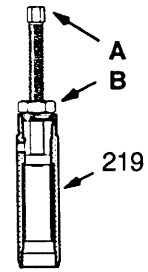

Fig 17
7. Screw the large nut (B) of the tool into the top of the cylinder (219). Screw down the rod (A) to push the sleeve out. Remove the tool. See Fig 17.